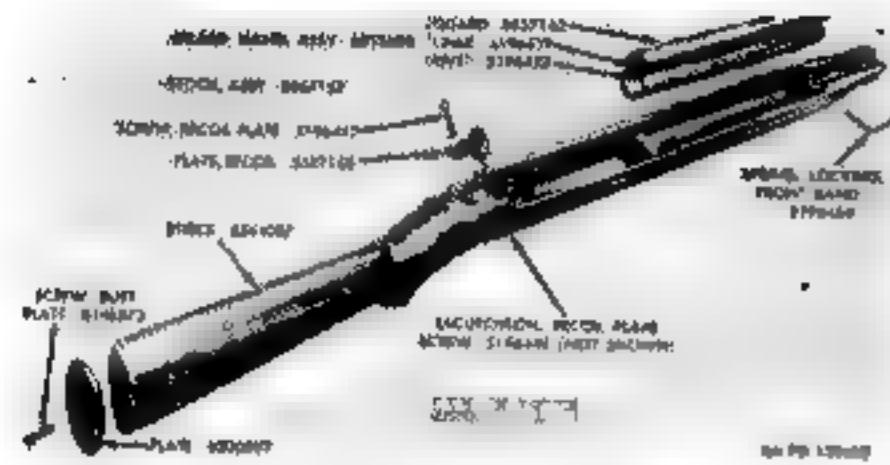

Figure 93. Stock and guard assemblies — carbine M1.
a. *Front Band Locking Spring* (Figs. 93 and 94). Insert small, straight punch in spring spindle hole in left side of forward end of stock and drive out front band locking spring part way, from left to right; then rotate spring and pull from hole.
b. *Recoil Plate* (Figs. 93 and 94).
(1) Inscrew recoil plate screw counterclockwise until clear of escutcheon
- (2) Loosen recoil plate by tapping lightly on rear top face with a metal tool. Pull plate directly forward out of seating recess in stock. Do not pull up or down, because rear seating lug on plate seats in a horizontal recess cut in the stock.
- (3) Do not remove the recoil plate screw escutcheon from the stock except for replacement. To remove, thread recoil plate screw into the escutcheon from the underside until all of the threads of the escutcheon are engaged and pull escutcheon out of stock. If withdrawal is difficult, insert small straight punch from top of screw hole in stock and tap end of screw lightly to loosen escutcheon, or thread screw in from top, part way, and tap lightly; then proceed as above.
c. *Butt Plate* (Figs. 93 and 94). Unscrew butt plate screw counterclockwise and remove from stock. Loosen butt plate by tapping it lightly. Pull to rear off stock. If butt plate is tight, do not pry off, as stock is likely to be damaged. Tap on edges lightly all the way around, until loose enough to pull from stock.
d. *Hand Guard* (Figs. 93, 94, and 96). The liner of the hand guard assembly is riveted to the hand guard; do not remove it.
b. Loose Rivets in Hand Guard Liner. A hand guard liner (Figs. 93 and 94) indicates improper spreading of the rivets. These rivets are tubular; tighten them by spreading the hollow (inner) ends with a blunt punch. Support the opposite (beaded) end of the rivet while riveting. Place rivet head on a small steel rod or punch clamped in a vise.